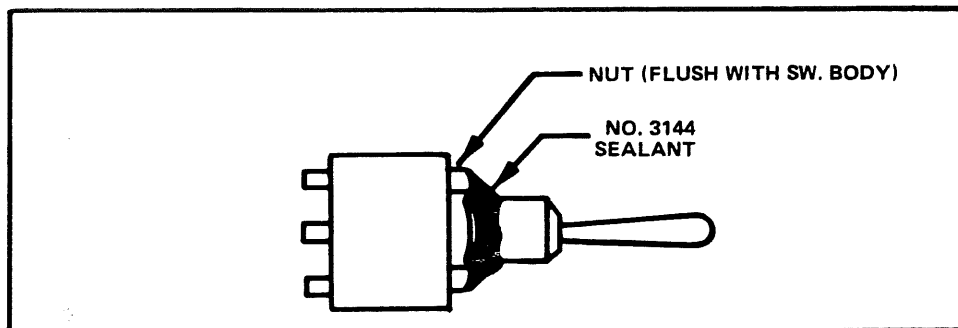
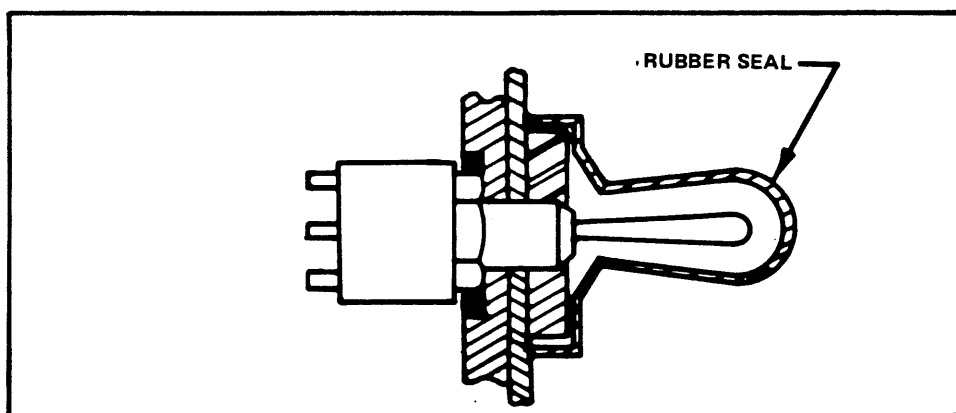

Figure 20. Application of sealant to RECORD toggle-switch nut.
Figure 21. Installation of rubber Cap-Seal on RECORD toggle-switch.
- (2) Install nut that was supplied with the switch, as shown in Figure 20.
- (3) Form a bead of No. 3144 sealant around the bushing/nut interface as shown in Figure 20.
- (4) Use attaching hardware and install the toggle switch in the Front Panel.
- (5) Install the cap-seal on the toggle switch (see Figure 21).